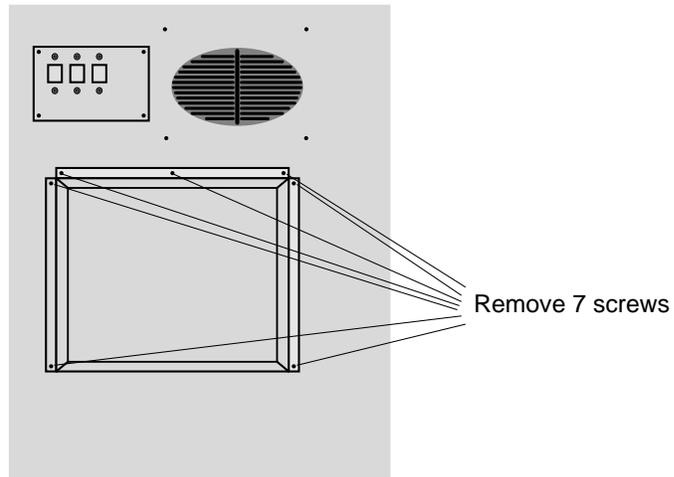
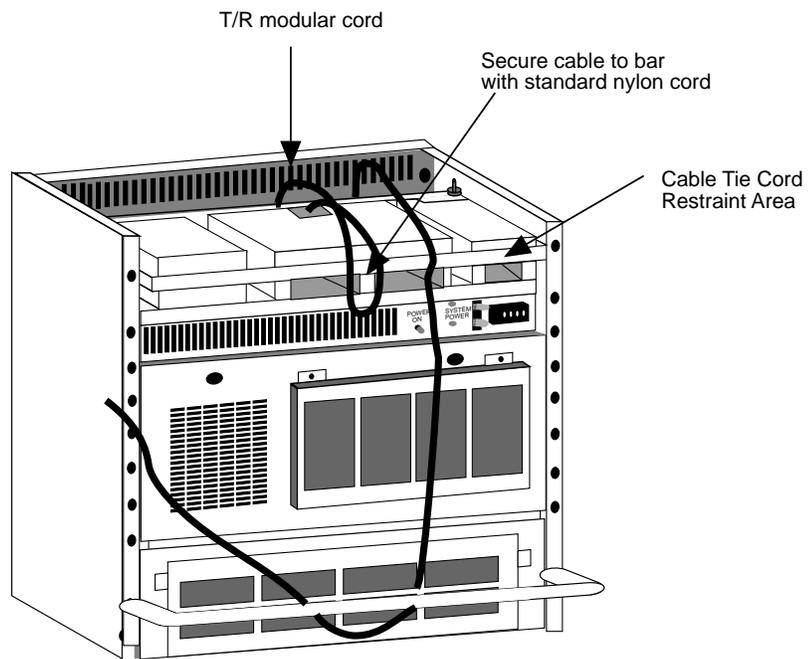

Figure 10-8. T/R Distribution Panel Installation
Figure 10-9. T/R Distribution Cable Routing
3. Secure and dress the cabling to the cable tie-down bar using standard central office nylon cord (Figure 10-8).
6. Plug the other end of the phono cable into the Audio In connector on the lower left corner of the VWS-TR interface module (see Figure 10-8).
7. Plug one end of the modular phone cord into the connector receptacle labeled "Tip/Ring Interface" of the VWS-TR interface module (see Figure 10-8) and the other end into the top connector receptacle on one of the T/R cards (see Figure 10-9).
8. Plug the jack at the end of the 24 VDC power supply cable into the connector labeled "24 VDC IN" of the VWS-TR interface module (see Figure 10-8). Plug the 24 VDC power supply into a 120 VAC power outlet.